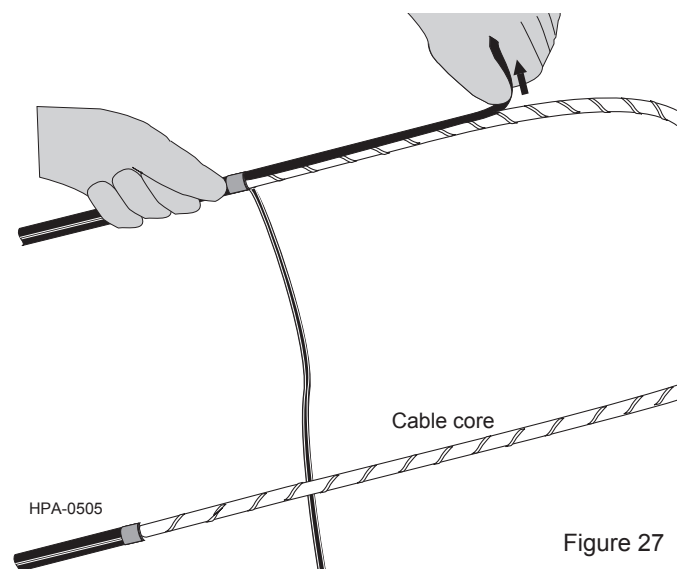

Figure 27
5.7 Grip the remaining side of the split sheath and pull it 90° from the cable core until it is also separated to the opposite tape wraps (Figure 27).